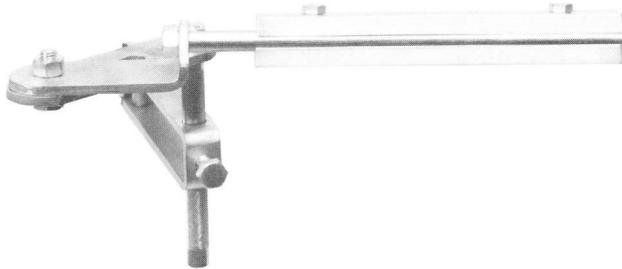
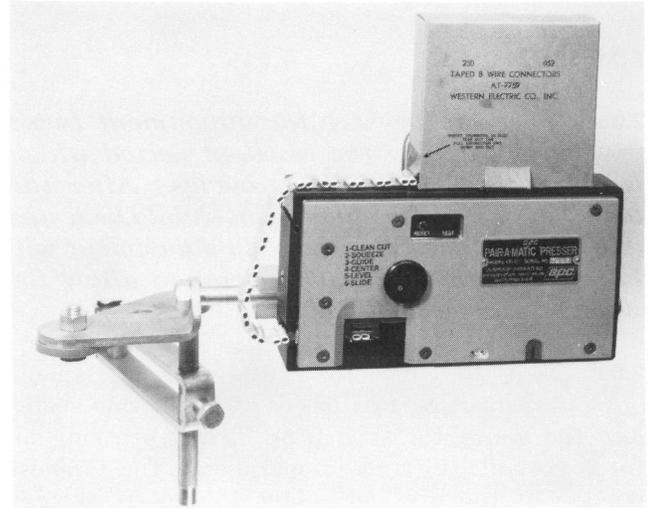

Fig. 5—Automatic Presser Support Bar
Fig. 6—Connector Presser Attached to Support Bar
2.13 The automatic presser support bar (Fig. 5) is for use in manhole or cable vault splicing operations. By mounting the support bar on a cable rack and adjusting the various bar components, the presser can be moved horizontally, vertically, laterally, and tilted into virtually any position for ease of operation and operator comfort. Figure 6 illustrates a connector presser mounted on the automatic presser support bar.